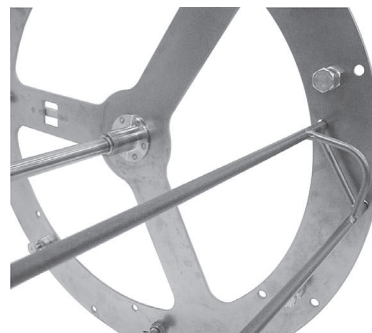

Fig. 15
2. Fit the notched end of fork spit into appropriate holes on the drive side of the rotor (Fig. 15).